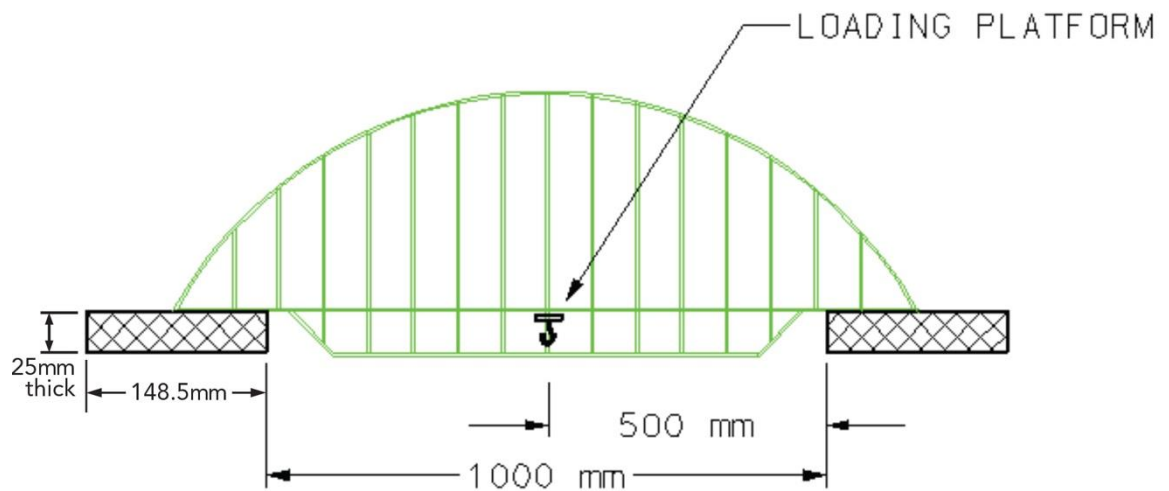

Figure 7: Location of Loading Platform
- ◆ The loading platform must be attached at the center (mid-span) of the bridge (see Figure 7). Note: to facilitate connection of the heavyweight loading platform's U-bolt to the loading device, the area immediately below the heavyweight loading platform must be unobstructed to allow for a 1/4" threaded Quick Link to be easily attached (on site, prior to loading the bridge) to the U-bolt (See Figure 6). The loading platform including its hardware (excluding the 1/4" threaded Quick Link) will be included in the overall weight of the bridge.